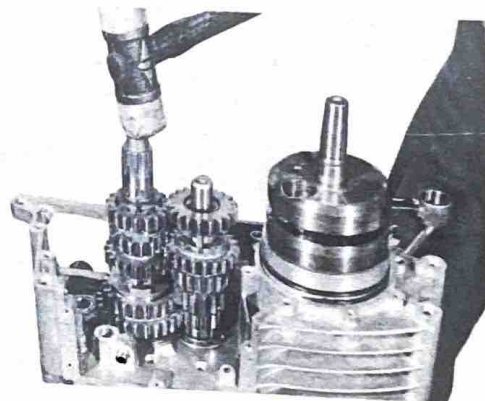

Fig. 4-15-5
- 5) Install both axles by tapping with a plastic-head hammer alternately, meanwhile meshing gears correctly. (Fig. 4-15-5)